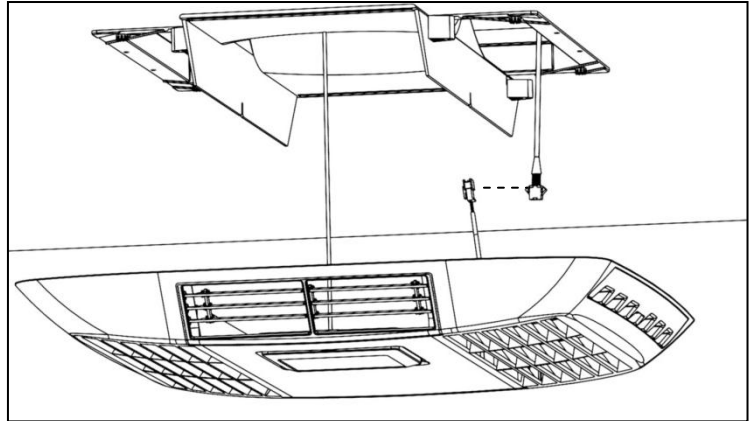

Fig 14: Attaching the suspension cable will allow two hands free to plug in the control cable
- This will allow you to use two hands to connect the control cable (see Fig 14 on next page).